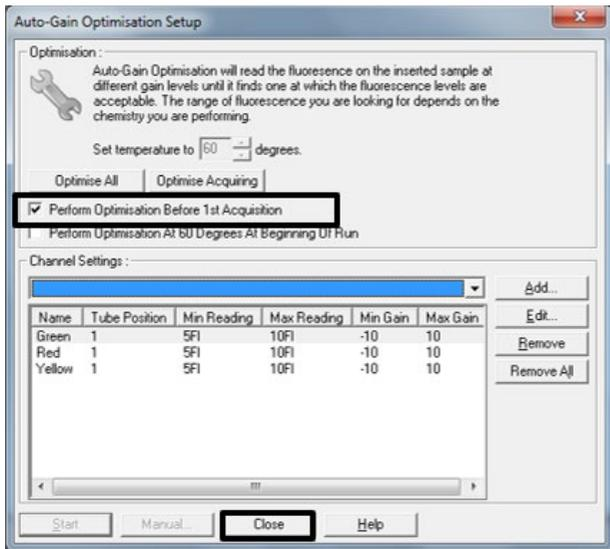

Figure 20. Gain Optimisation. 1: “Perform Optimisation before 1st Acquisition”. 2: “Close”.
26. Check the **Perform Optimisation before 1st Acquisition** option, then click **Close** to return to the “New Run wizard” window (Figure 20).